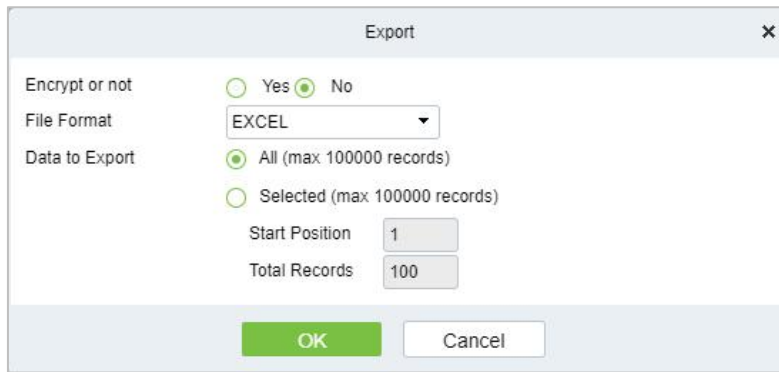

Figure 11-12 Report Export Interface
Step 3: In the full record interface, click **Export**, enter the user password in the pop-up security verification, and click **OK**. Select whether to encrypt and export the file format, and Click **OK**, as shown in Figure 11-12.